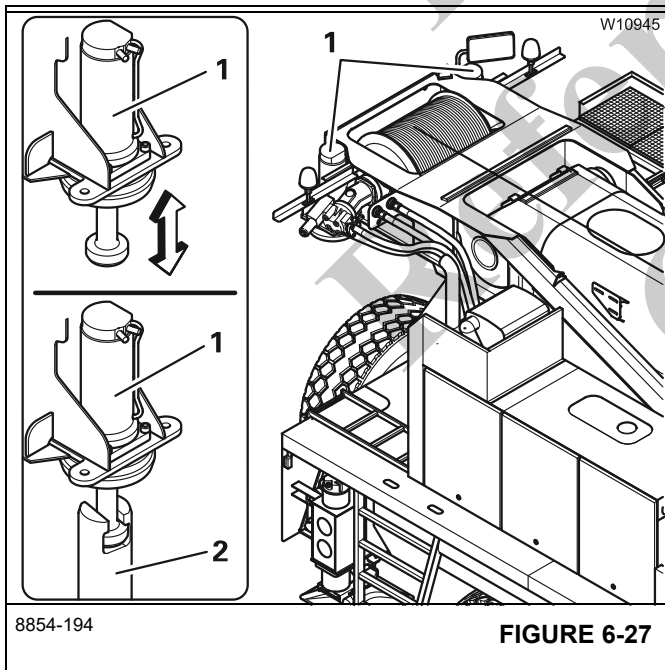

FIGURE 6-27
The lifting cylinders (1), (Figure 6-27) can be extended and retracted.